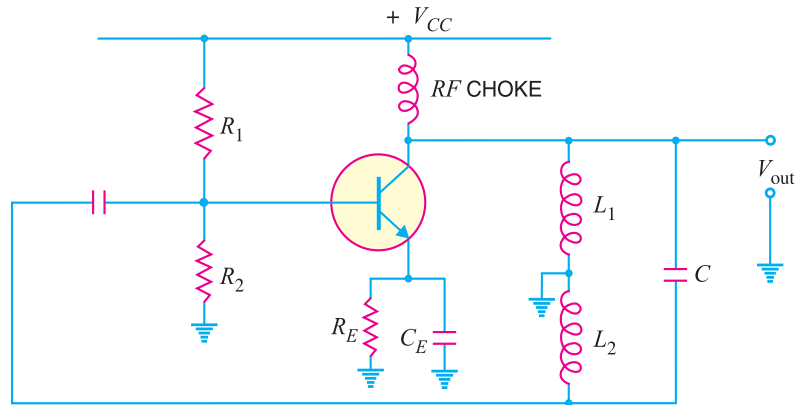

Fig. 14.25
2. Figure 14.25 shows the Hartley oscillator. If $L_1 = 1000 \mu\text{H}$, $L_2 = 100 \mu\text{H}$ and $C = 20 \text{ pF}$, find the (i) operating frequency and (ii) feedback fraction. [(i) 1052 kHz (ii) 0.1]
4. For the Hartley oscillator shown in Fig. 14.25, $C = 250$ pF, $L_1 = 1.5$ mH, $L_2 = 1.5$ mH and $M = 0.58$ mH. Determine the operating frequency. [159.2 kHz]